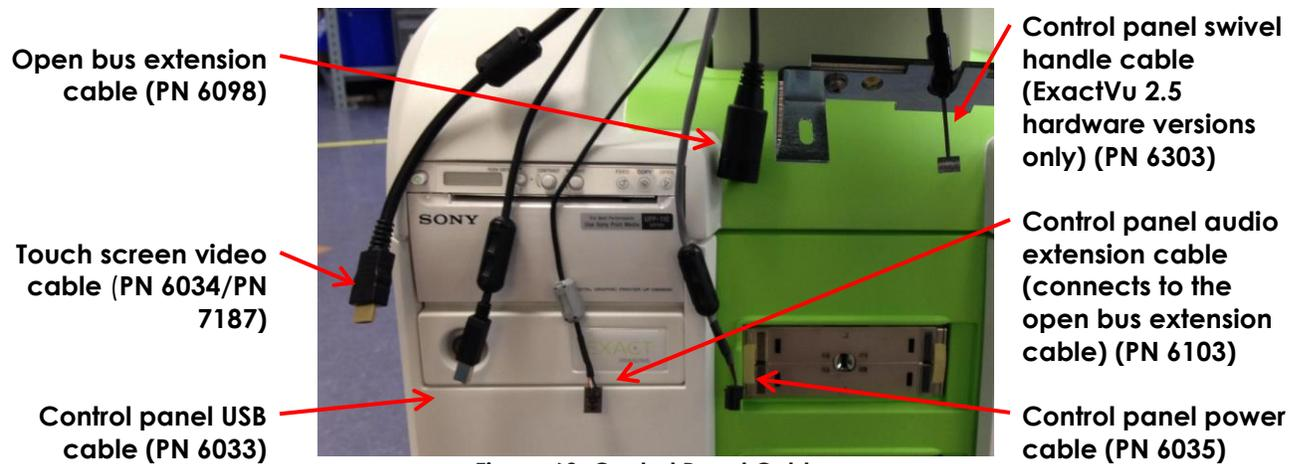

Figure 63: Control Panel Cables
7. Disconnect the cables connected to the control panel assembly (refer to Figure 63).